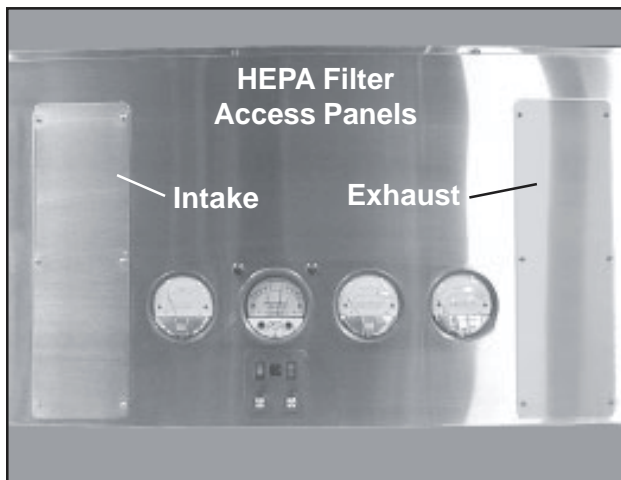

Figure 52. HEPA Filter Access Panels
2. With a Phillips screwdriver, remove the six screws on the access panel next to the instrument panel (Figure 52) and remove the panel.
6. Replace the access panel and secure with the six screws (Figure 52).